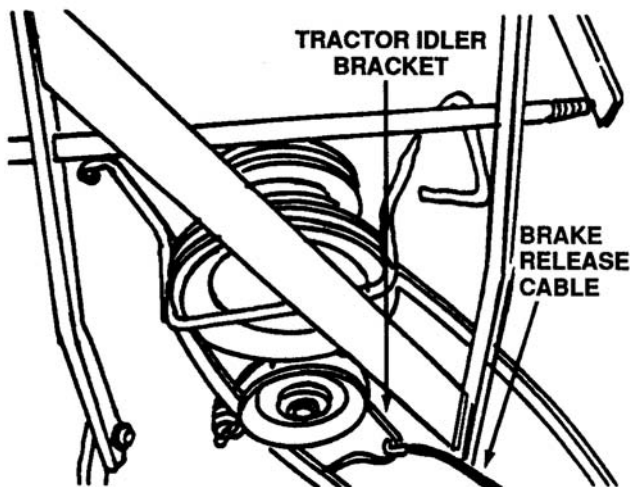

Figure 8-14. Securing Brake Release Cable
15. Secure with brake release cable to the tractor idler bracket with small clevis pin and small cotter hairpin. Use the outside hole in the bracket. See Figure 8-14.